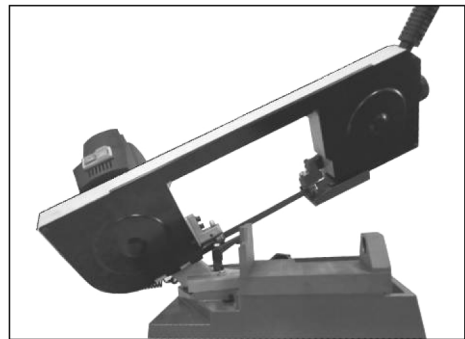

Fig.3
1. Raise the saw head to proper position in Fig.3.